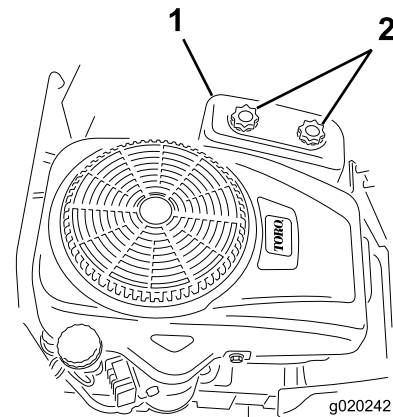

Figure 37
4. Remove the air-cleaner cover by unscrewing the 2 knobs (Figure 37).